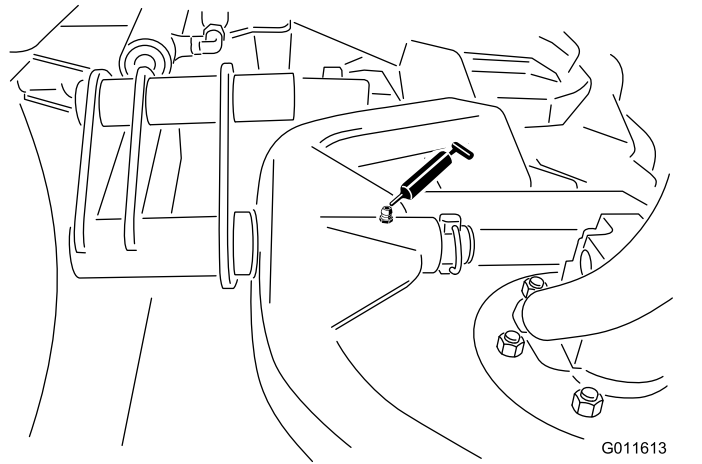

Figure 41
- Cutting unit carrier-frame pivot (1 each)—Figure 41